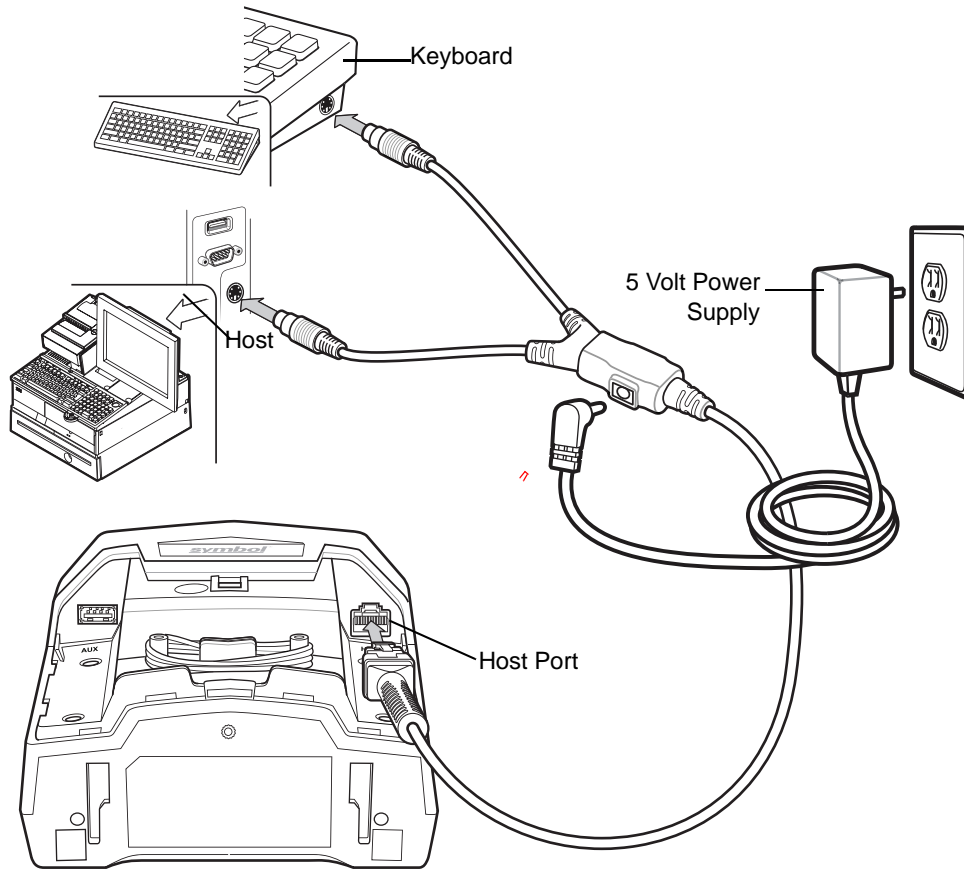

Figure 9-1 Keyboard Wedge Connection - 5 Volt Power Supplied Externally
- The DS7708 connects directly to the host computer and keyboard using the keyboard wedge Y-cable (see Figure 9-1).